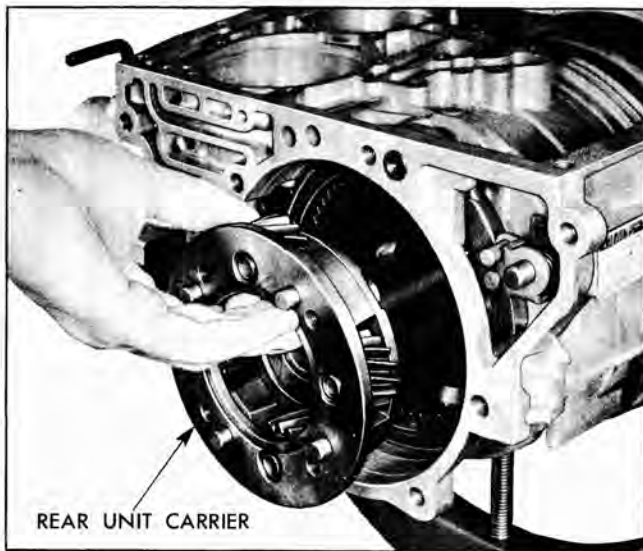

Fig. 58 Removing Rear Unit Carrier
13. Remove the rear carrier and shaft assembly from the rear of the transmission (Fig. 58).